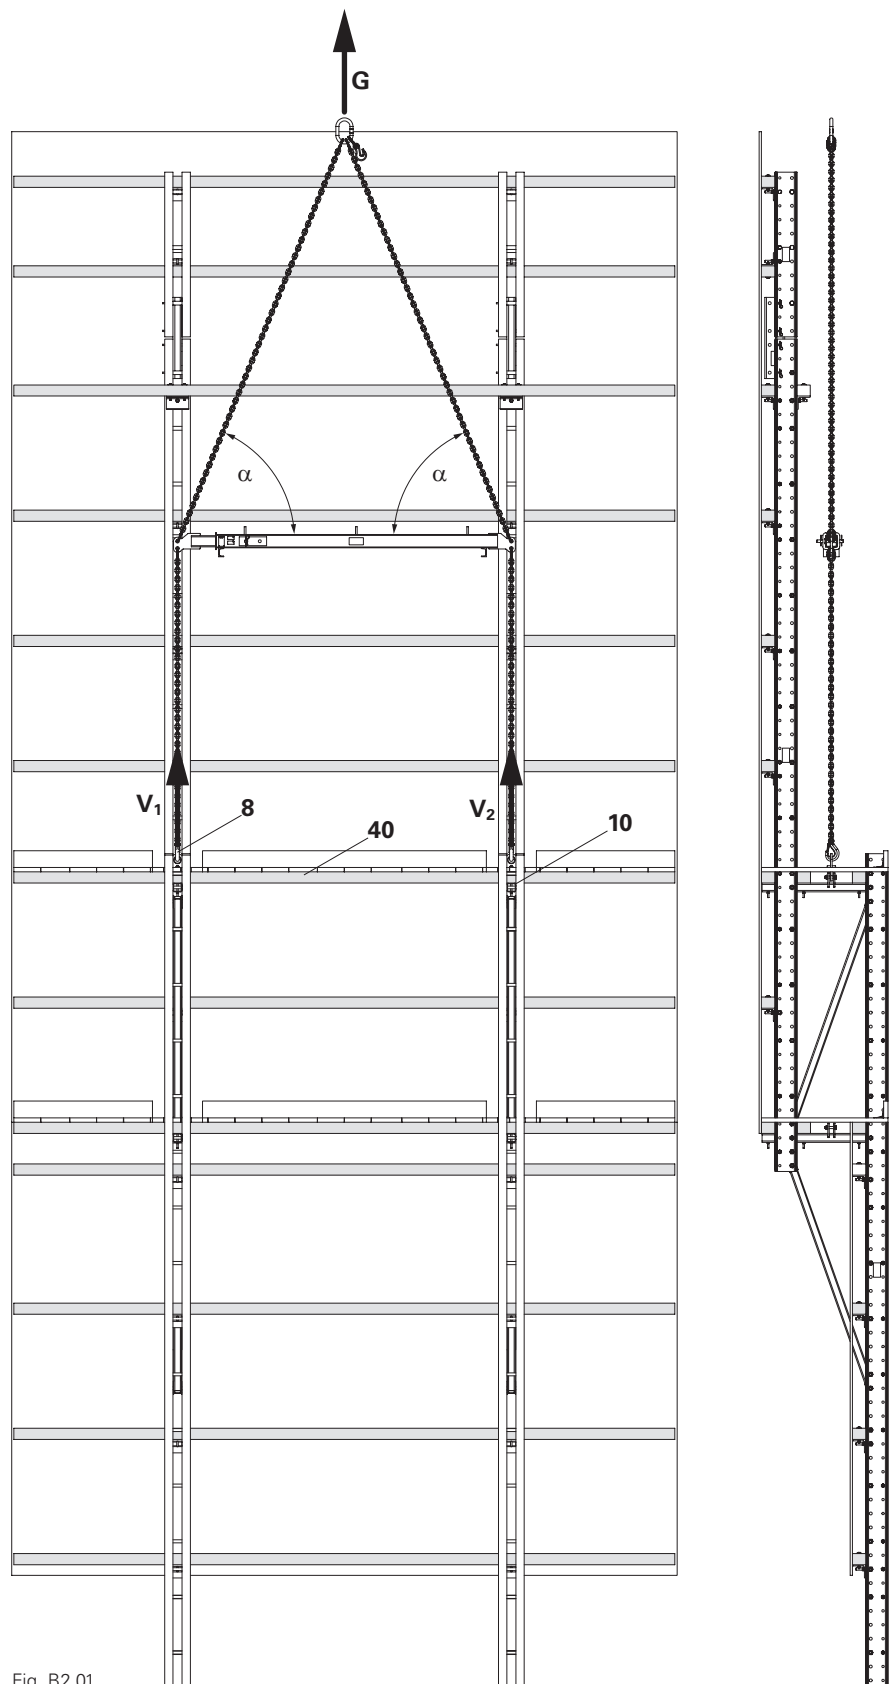

Fig. B2.01
(Fig. B2.01)
- With heavy climbing units where a load of more than 25 kN per attachment point must be lifted, attach the PERI Climbing Beam RCS 9t to a spacer. (Fig. B2.01)